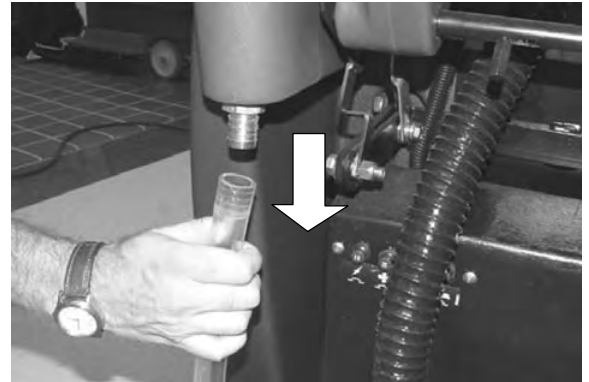

FIG. 26
1. Pull clear hose off hose barb at rear of machine and drain solution into floor drain or bucket (Figure 26).